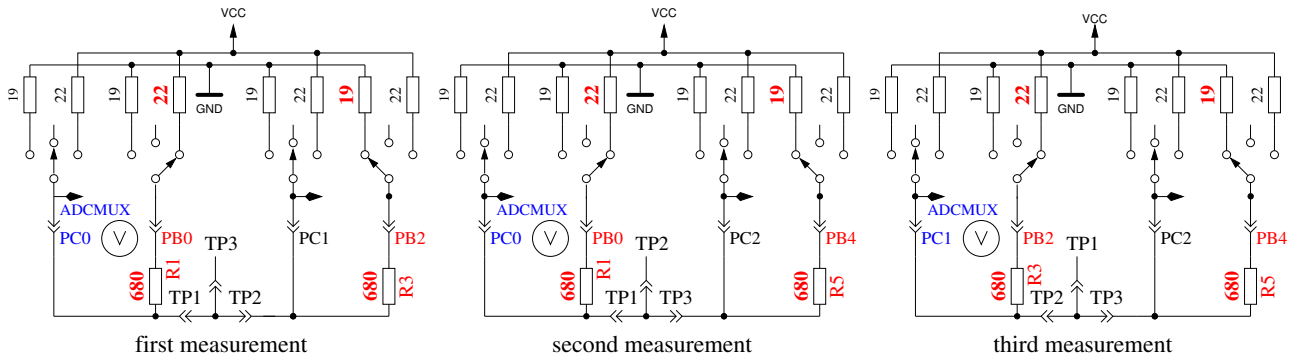

Figure 4.23: Comparison of 680Ω resistors
2. **Comparing of the 680Ω resistors.** In row 1 the cryptic text “+RL- 12 13 23” is shown. Meaning of this is as follows: The RL is the short form of Resistor Low meaning the 680Ω resistors. The 12 stand for: resistor at pin 1 is connected to VCC (+) and resistor at pin 2 is connected to GND (-). The result of this measurement is displayed in row 2 at the first place. In row 1 follows now a “13” which means, that the first connection of measurement 1 is still connected with 680Ω to VCC but that the resistor of pin 3 is connected to GND. The result is displayed in the middle place of row 2. The last measurement of this test “23.” means that now the resistor at pin 2 is connected to VCC (+) and the resistor of pin 3 is connected to GND. The result of measurement is displayed at the last place of LCR row 2. Please remember, that the resolution of the ADC is about 4.88mV! The measurement situation is also shown in figure 4.23. All these combinations with respect to the internal resistance of the pins should result to: